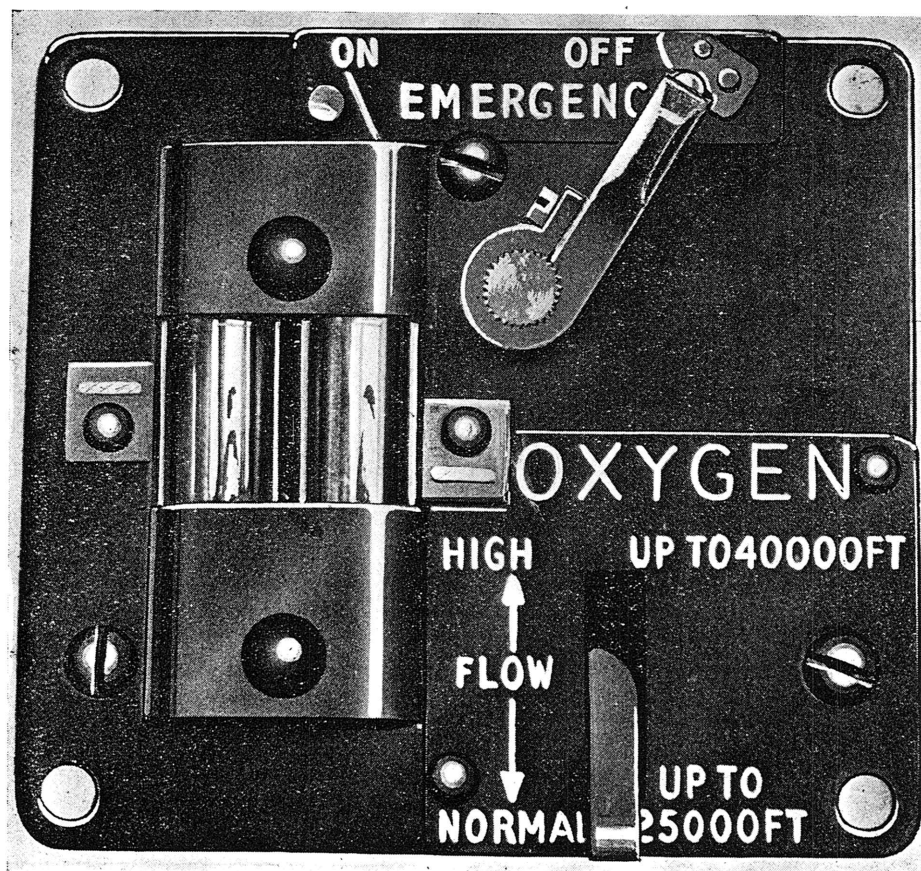

Fig. 1. Mk. 11E, regulator
1. This regulator (fig. 1 and 2) is employed in two-seater aircraft for use by the second crew member and is used in conjunction with a regulator Mk. 11D (Chap. 2C). An oxygen supply, at reduced pressure, is fed to the inlet connection from the second outlet on the Mk. 11D regulator.